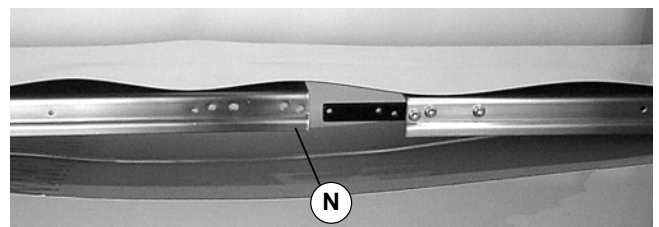

Figure 6
4. Place conveyor frame (N Figure 6) into belt loop.